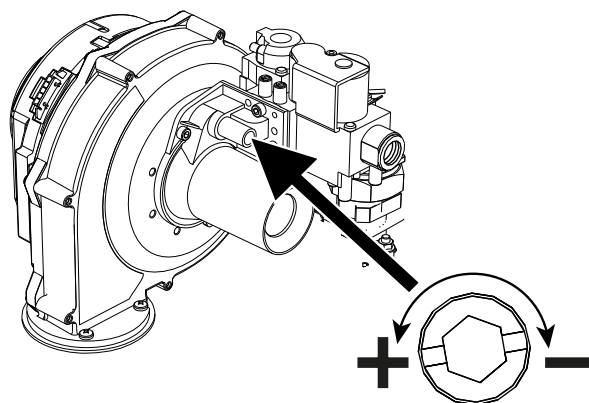

fig. 94- Maximum capacity adjustment screw
- If the values do not correspond to those indicated, adjust the CO₂ with the adjustment screw (see fig. 94), bringing them back to those indicated.